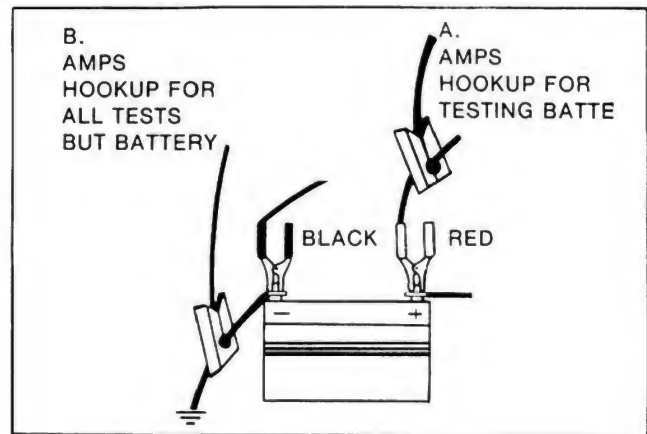

Figure 2—Test connections for Ammeter.
1. Connect the Green clamp-on AMPS PICK-UP around either **tester** load cable (disregard polarity). See Figure 2, A.
2. Connect the Green clamp-on AMPS PICK-UP around the **vehicle** ground battery cables. (Disregard polarity.) If more than one cable is connected to battery post, place clamp around all cables. See Figure 2, B.
- A. Leave the Green clamp-on AMPS PICKUP around vehicle ground cable or cables. See Figure 2, B.